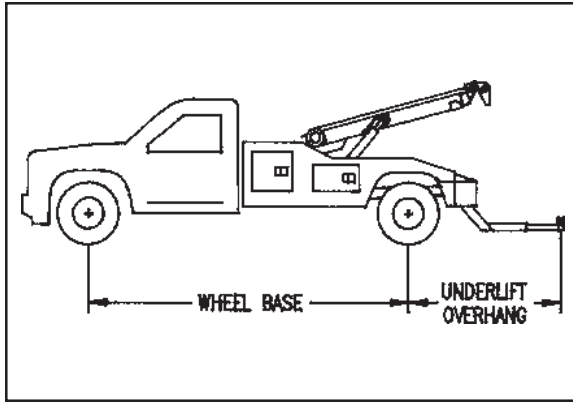

Figure 5-2.
2. Carefully measure the wheel base and note the distance in either inches or centimeters. (See Figures 5-2 & 5-3.)
(Refer to Figures 5-2 & 5-3.)